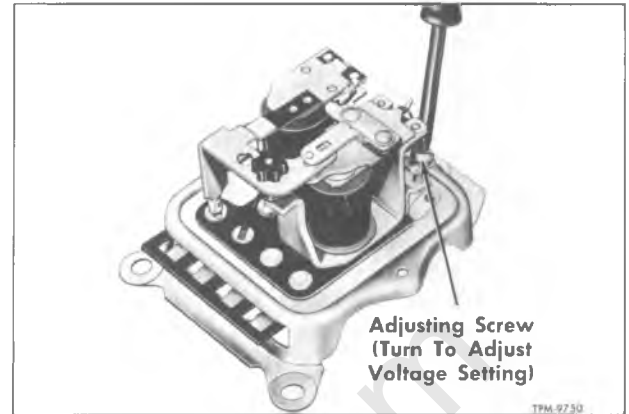

Figure 16—Adjusting Voltage Setting (Two-Unit Type Regulator) (Typical)
7. To adjust the voltage setting, turn adjusting screw as shown in figure 16.